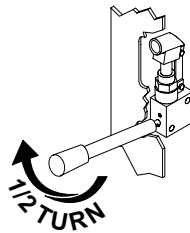

**FIG. 23 UNFOLD PLATFORM**
3. Observe PLATFORM unfolding to horizontal position at vehicle floor level (**FIG. 23**).